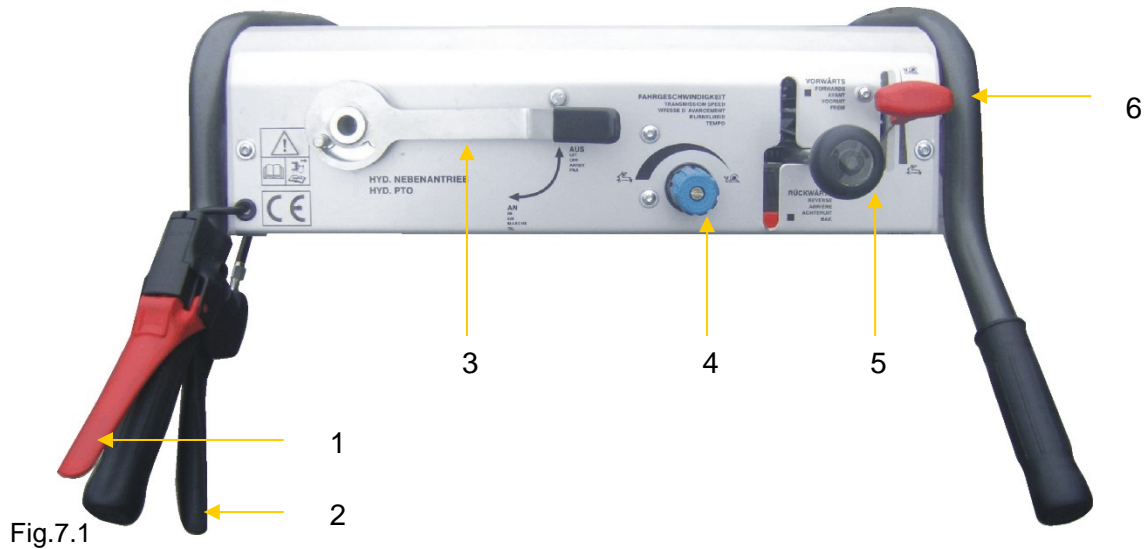

Fig.7.1
- To start the engine; the driving lever (Fig.7.1 ; item 5) must be in the "Off" position, in the recess of the shifting gate and the lever for the PTO (Pos.3 Fig.7.1) must also be in the off position.
- Set the throttle (Fig.7.1 ; Pos.6) to approximately 1/3 open
- The deadman switch (Fig.7.1 ; item 1) should be pressed and held down . Likewise, the lower lever (Fig.7.1 ; Item 2), which works like a clutch in a car, should be pulled up and retained.
- For engaging forward drive, the lever (Fig.7.1 ; Pos.5) should be pushed upwards and for reversing the same lever pulled down .
- To engage drive, release the lower lever slowly (Fig.7.1; Pos.2) the slower the lever is let go, the softer the take off will be. To save component wear it is important to try and release the lever as slowly as possible.
- If the machine is too fast or too slow this can be adjusted by turning the knob (Fig.7.1 ; Item 4) to the desired position.
- The throttle (Fig.7.1 ; item 6) controls the engine speed and thus the driving speed is affected . Try to always use the lowest necessary speed in order to prolong the life of the machine.
- The PTO is engaged or disengaged with the lever (Fig.7.1 ; Pos. 3).
- Before switching off the engine, make sure that the drive lever (Fig.7.1 ; item 5) is in the recess of the shifting gate and the lever for the PTO (Fig.7.1 ; Item 3) is in the switch "Off" position.
- Set the throttle (Fig 7.1 ; . Item 6) in neutral position and allow the engine to idle for about 30 seconds.